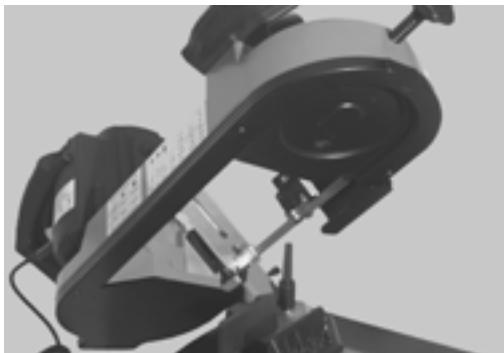

Fig. 47
2. Raise the arch to the upright position (Fig. 47).
Elements on Fig. 47 - 50